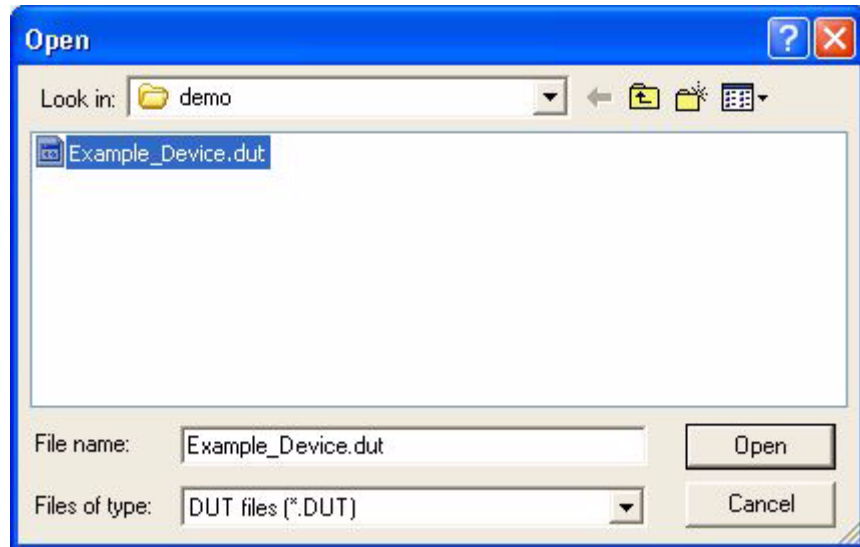

Figure 8-62. Load DUT Definition File Open Dialog Box
- 1 From the V4400 Series Tester Software IDE main window, selecting the File > Open > Bitmap Tool DUT Document command or  toolbar button displays its Open dialog box (similar to Figure 8-62).